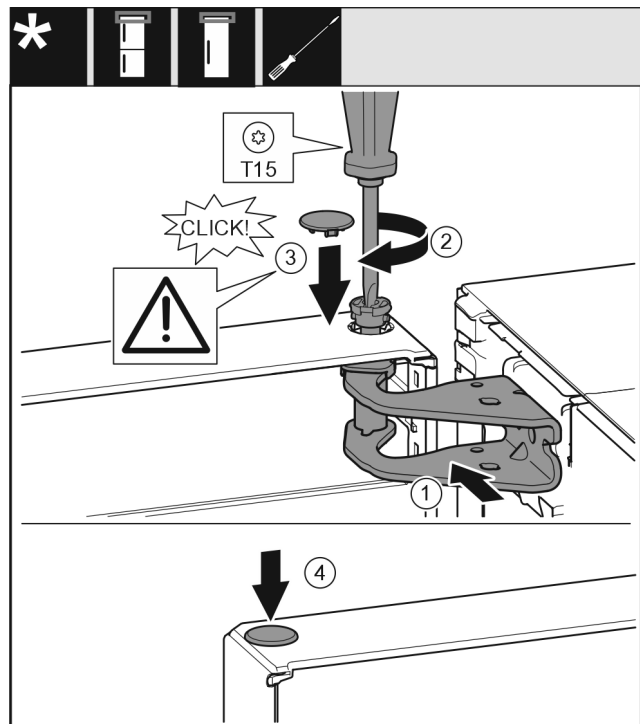

Fig. 26
- Align the top of the door with opening in the bearing bracket. Fig. 26 (1)
- Insert the bolt Fig. 26 (2) and use screwdriver to tighten it.
- Fit the safety cover Fig. 26 (3) to secure the door: Insert the safety cover and check whether the door is resting on it. Otherwise, insert the bolt fully.
- Insert the plug Fig. 26 (4).